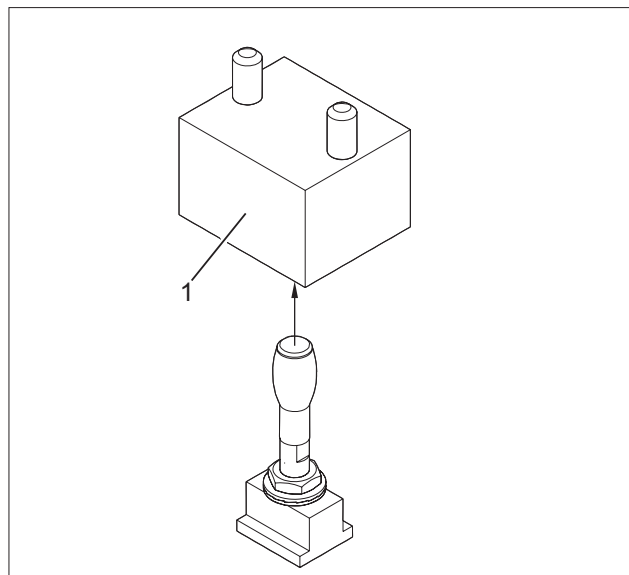

Fig. 15 Removing the support block
- Pull out the support block (Fig. 15/1).